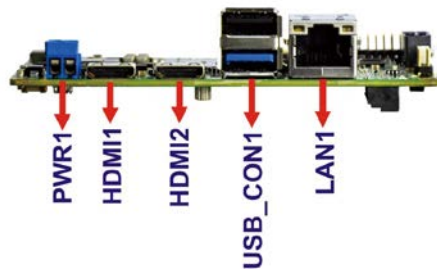

Figure 3-20: External Peripheral Interface Connector
Figure 3-20 shows the HYPER-BW external peripheral interface connector (EPIC) panel.
CN Location: See Figure 3-20
- CN Location: See Figure 3-20
CN Location: See **Figure 3-20**